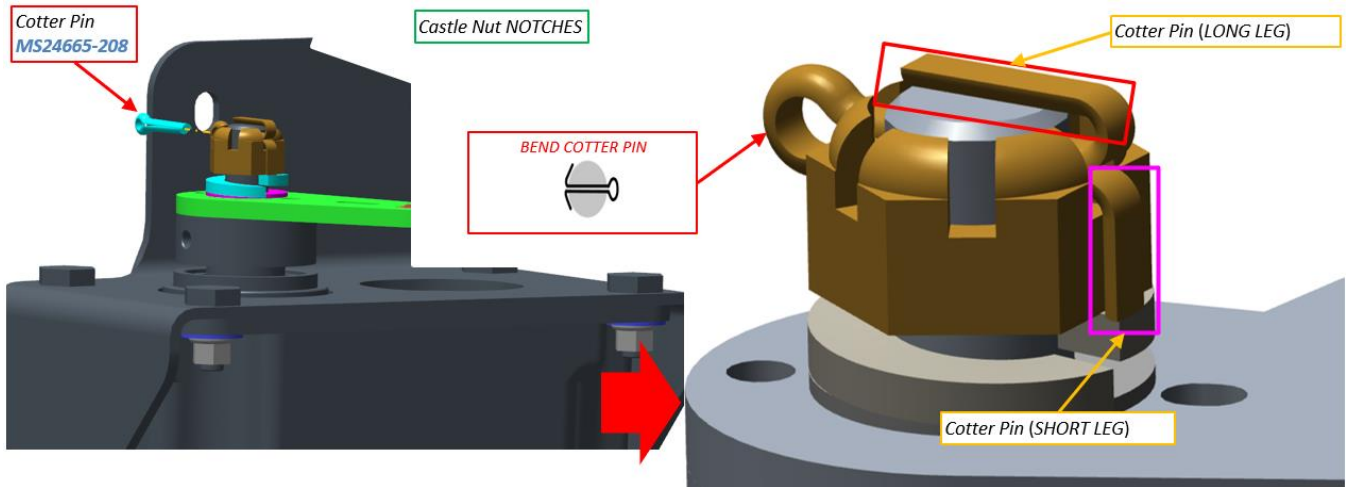

Figure 7 Pitch Servo Cotter Pin Installation
- a. ENSURE LONG LEG OF COTTER PIN IS UPWARD (see Figure 7)